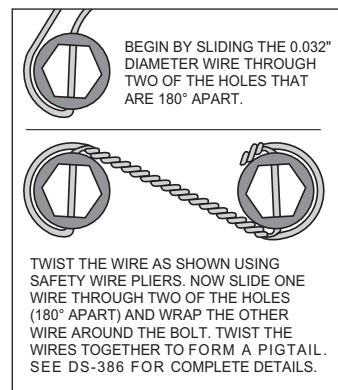

Figure 4
STEP 4 Orient the rotor (7) and the hat (8) as shown in Figure 1 and Photo 3. Attach rotor to hat using bolts (9) and washers (10). Apply red *Loctite*® 271 to the bolt threads and torque to value shown in Figure 1 using a criss-cross pattern. For an added measure of security, the bolts may be safety wired using standard 0.032 inch diameter stainless steel safety wire as shown in Figure 4. Refer to Wilwood's data sheet DS-386 (available at www.wilwood.com/Pdf/DataSheets/ds386.pdf) for complete safety wire installation instructions.
STEP 5 Slide the rotor registration adapter (11) onto the axle register on the axle flange with the smaller O.D. facing toward the rotor/hat (7/8), Photo 4. Slide the assembled rotor/hat (7/8) onto the axle flange. **NOTE:** The rotor/hat must fit flush against the axle flange or excessive rotor run out may result. Install three lug nuts (finger tight) to keep the rotor/hat assembly in place while continuing with the installation.